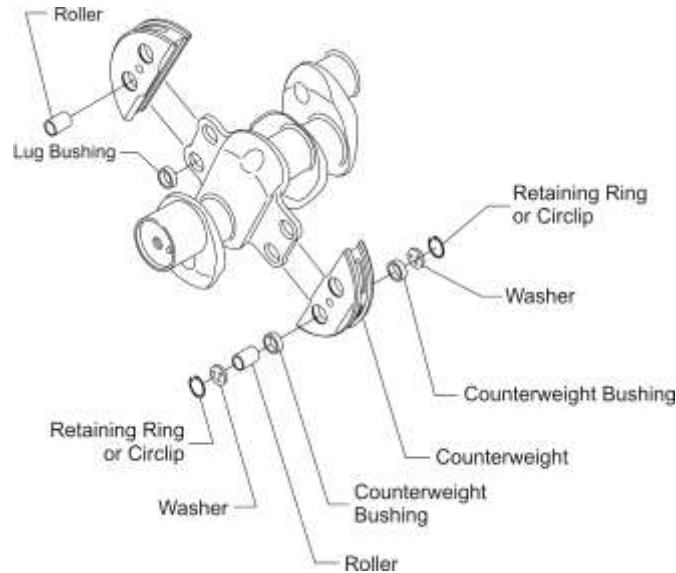

Figure 20
NOTICE: Counterweights (Figure 20) of a specific order are installed in specified locations identified in the latest revision of Service Instruction No. SI-1012.
- (2) Remove the two retaining rings (or circlips), two washers, and matched roller pair (Figure 20) from each counterweight. Discard the retaining rings and washers regardless of condition.
If a lug bushing (Figure 20) is damaged, replace it per instructions in the latest revision of Service Instruction No. SI-1142.